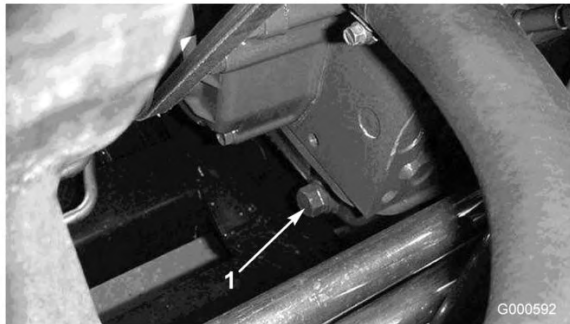

Figure 35
1. Remove the rear drain plug (Figure 35) and let the oil flow into a drain pan. When the oil stops, install the drain plug.